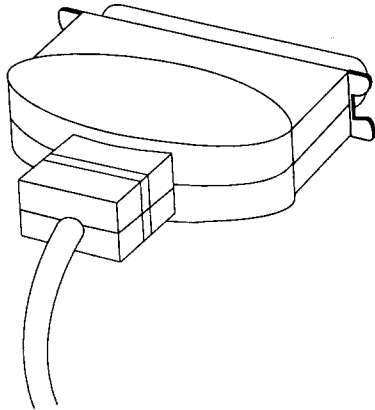

Figure 3 SlimSCSI Male SCSI Connector
- 3 Connect the first SCSI device to the SCSI connector on the **SlimSCSI** adapter (see *Figure 3*). Other SCSI devices (up to 7 total) may be daisy-chained to the first SCSI device; see your dealer for details if you are not familiar with multiple-device connections.